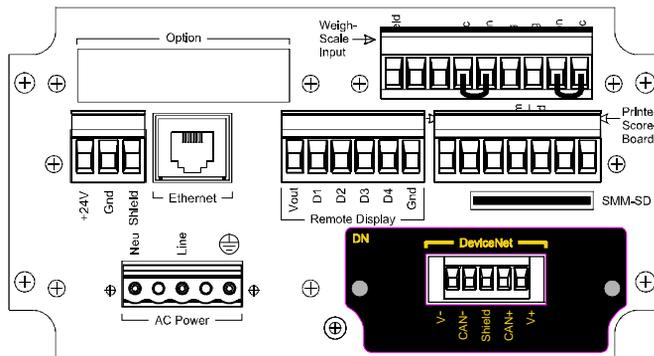

FIG. 18 REAR PANEL WITH DEVICENET OPTION
- Step 1. Remove the factory installed jumpers from the terminal block if you are connecting an 8 wire cable from the junction box. (See Fig. 18)
- AC Power Input (See Fig. 18)
- Step 3. Plug the connector into the header at the rear panel. (See Fig. 18)